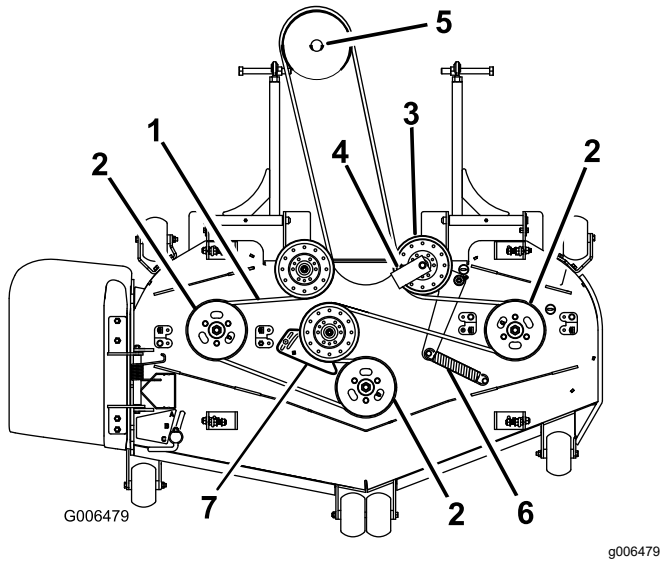

Figure 83
7. Remove the belt guide on the spring-loaded idler pulley shown in Figure 83.
- Install the new belt around the mower pulleys and the gearbox pulley under the engine (Figure 83).
- Install the belt guide on the spring-loaded idler at a 45° angle as shown in Figure 83. Torque the bolt to 37 to 45 N·m (27 to 33 ft-lb).
- Install the idler spring to the 2 posts (Figure 83).